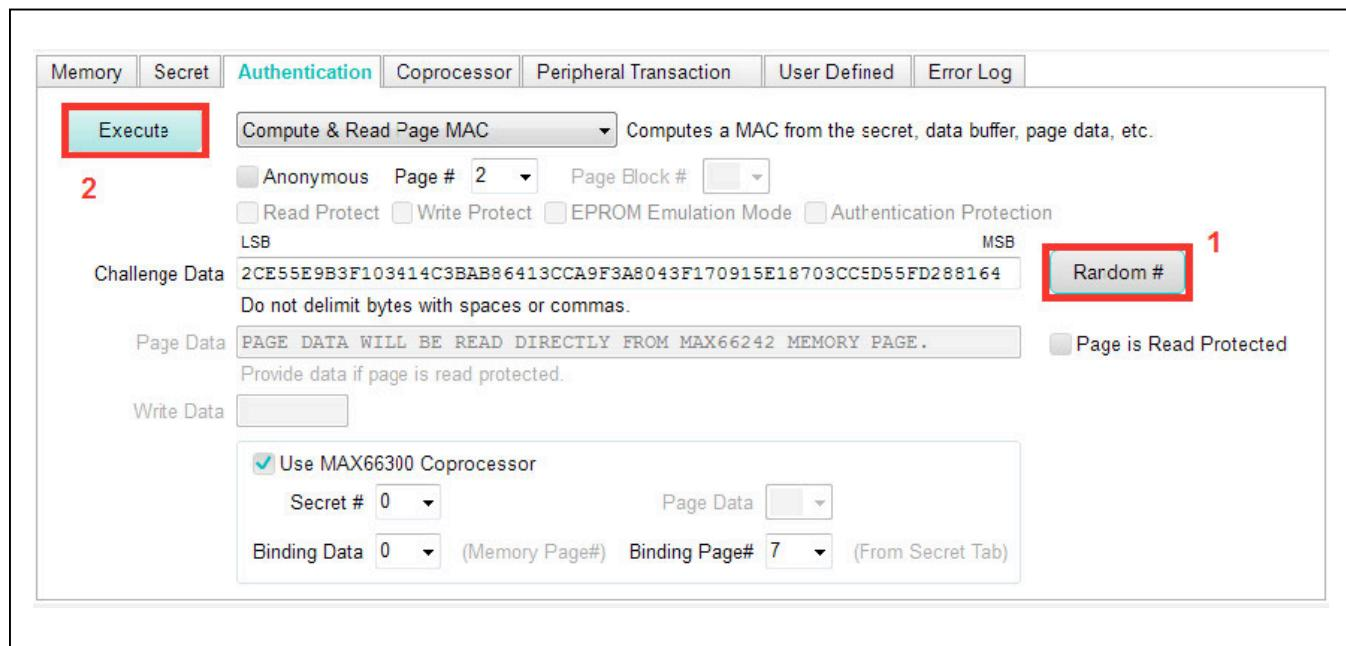

Figure 36. Challenge Data and Execute Compute
- 6) Click the **Random #** button to fill the **Challenge Data** field and click the **Execute** button (Figure 36).